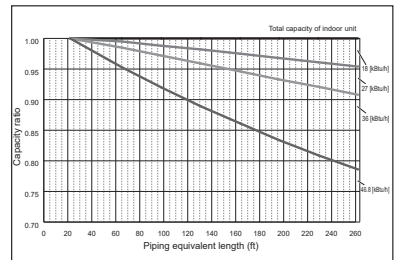

Figure 3 Correction of refrigerant piping length
- Piping Length Correction (250 ft) 0.93 (Refer to Figure 3)